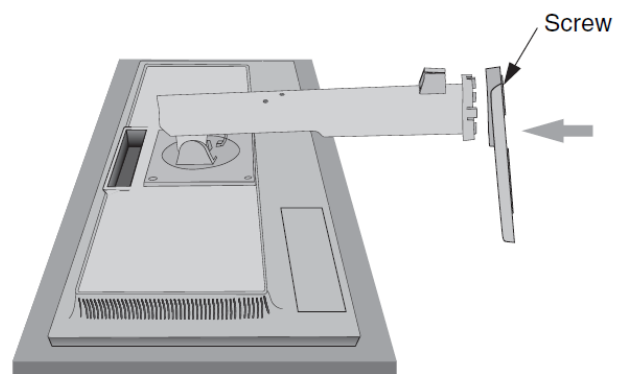

Figure 2
3. Attach the base stand to LCD monitor and properly lock screw of base stand bottom (Figure 2).